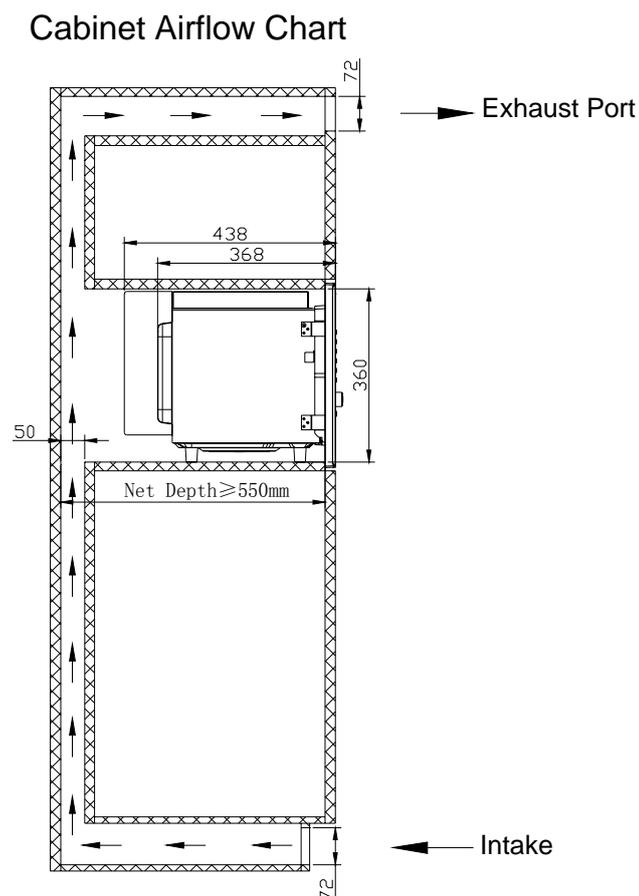

Fig.6
f) Cabinet airflow chart as shown in Fig.6.